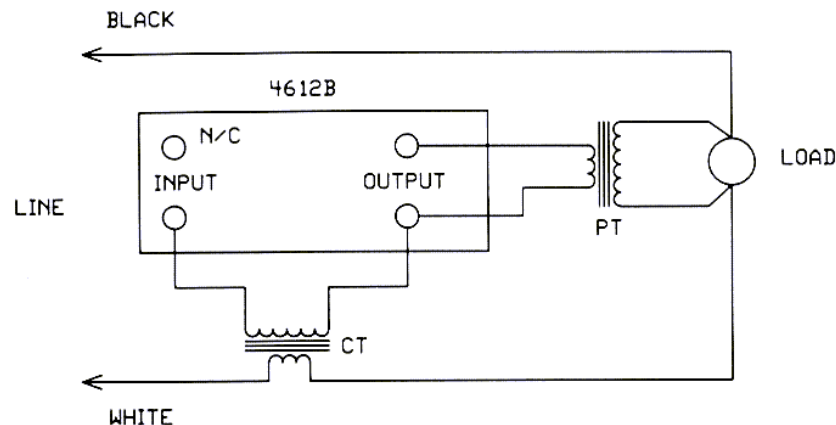

FIGURE 4
Figure 4 schematic shows a typical connection method for both a current transformer (CT) and a potential transformer (PT). It is important to understand that the 4612B requires the White LOAD (output) terminal as the common to both current and potential measuring circuits.